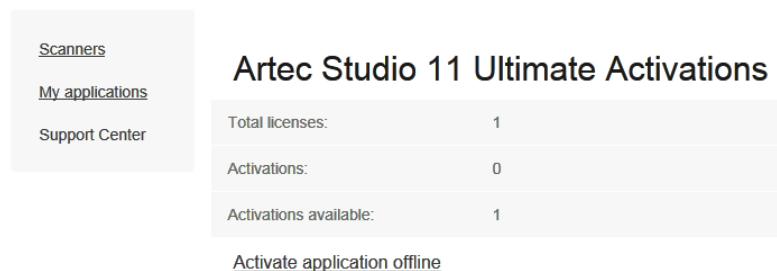

Figure 4.16.: Offline activation at my.artec3d.
5. Find Artec Studio and click on it. A new page will appear, as Figure 4.16. shows.